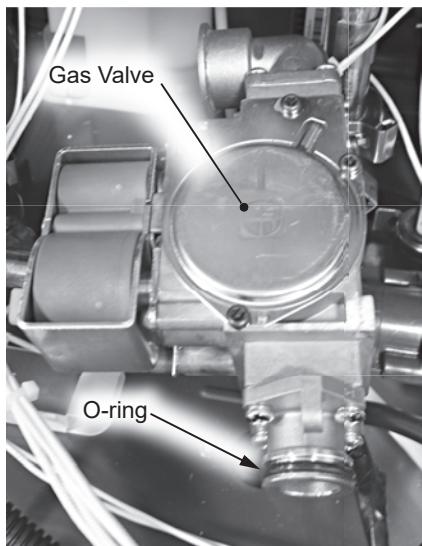

Figure 82 - O-ring replacement (one o-ring)
**12** Locate the new gas valve o-ring, install it as shown in Figure 82.